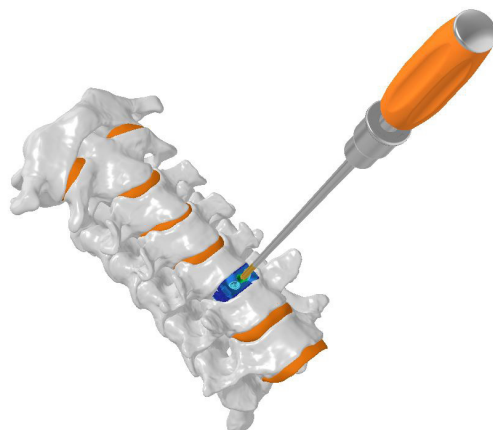

FIGURE 15
1. Connect the straight T8 screwdriver (FCP-117-008) to the torque limiting quick connect handle (FCP-100-001) to rotate the center blocking screw 90° clockwise to block the bone screws (Figure 15).